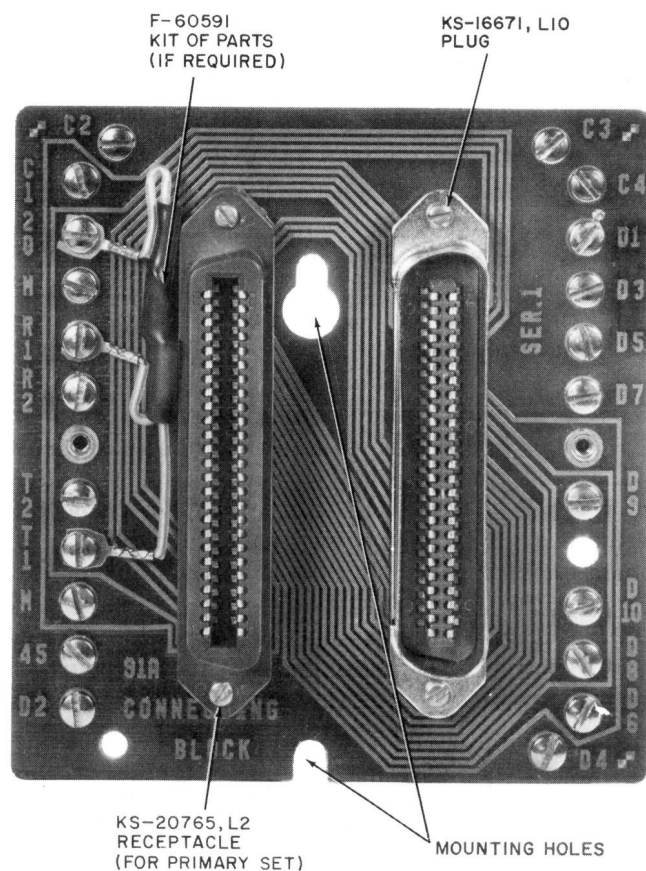

Fig. 9—91A Connecting Block
Each primary station must be connected into the system by way of the 91A connecting block (Fig. 9) where the associated CO/PBX lines are terminated; do not attempt to connect primary sets in any other manner.
3.13 **F-60591 Kit of Parts**—This kit is a resistor network used to provide additional static discharge protection. Install one resistor network as shown in Fig. 9 on the 91A connecting block of one primary telephone set per installation if either of the following conditions exist: